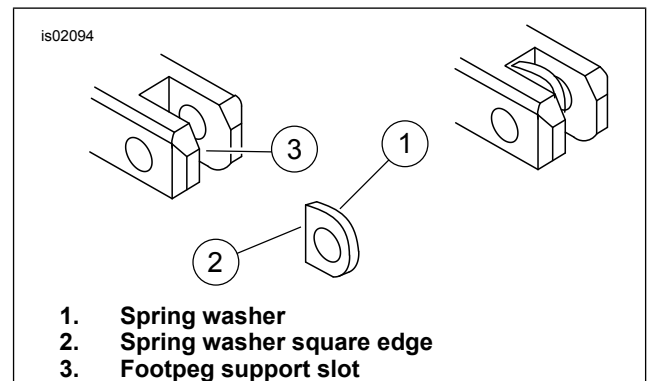

Figure 1. Footpeg Spring Washer Installation
See Figure 1. When performing the next step, verify that the spring washer is positioned inside of the footpeg support with the square edge (2) towards the inside of the support.
3. See Figure 1. Install the new footpegs in the same manner as the old footpegs were installed. Place a spring washer (1), along with the mount end of the footpeg, inside the slots (3) of the footpeg supports.